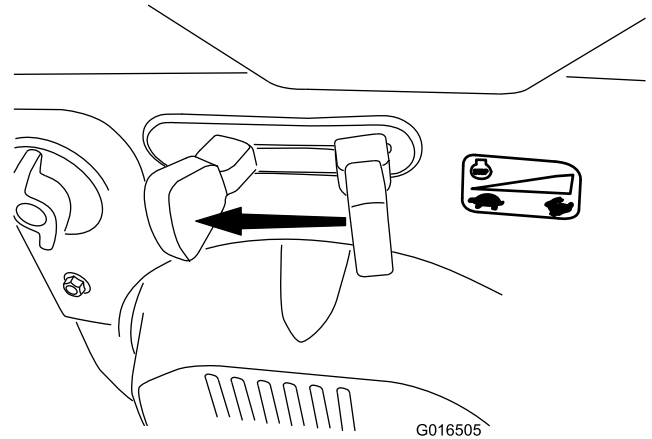

Figure 32
- 1. Move the throttle to the Slow position, and then to the Stop position (Figure 32) to kill the engine. The engine can also be stopped by pulling the ignition key outward to the middle position.